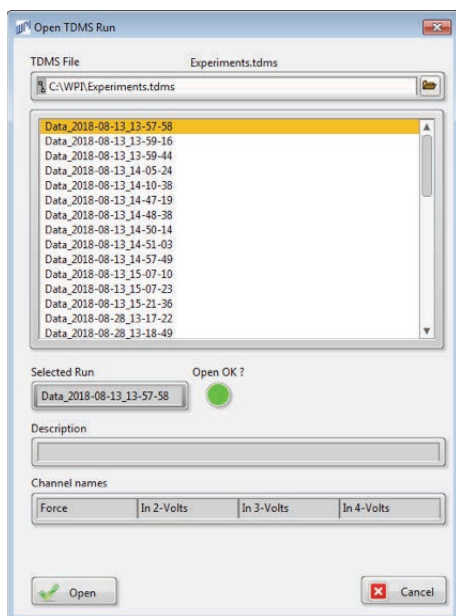

Fig. 62—The **Open TDMS Run** window allows you to select a file for analysis.
2. The main section of the window displays the data runs saved in that folder (Fig. 62). To open another folder location, click on the **Browse** button  to the right of the **TDMS file** text box. On the next window, browse the computer to locate and highlight the required folder. Click the **OK** button to open it.